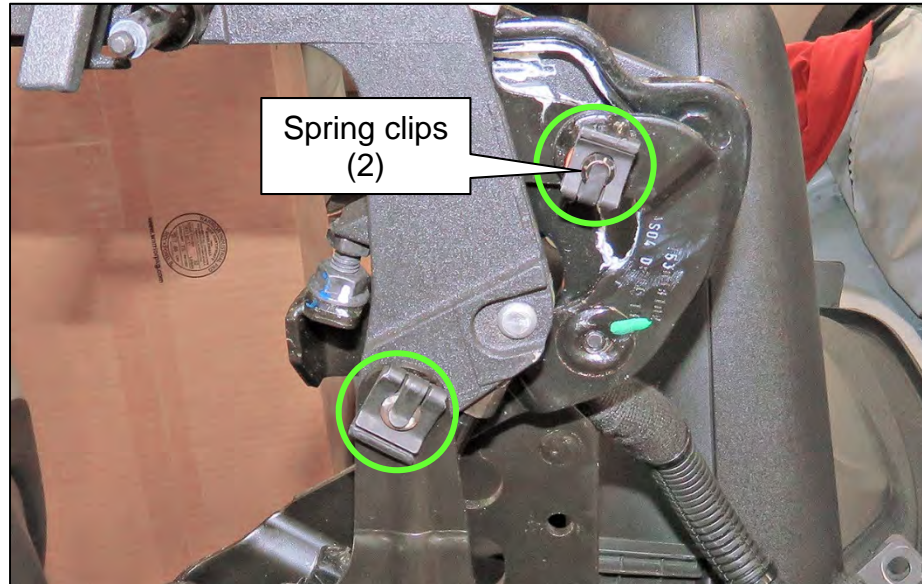

Figure 171
181. Remove two (2) spring clips (Figure 171).